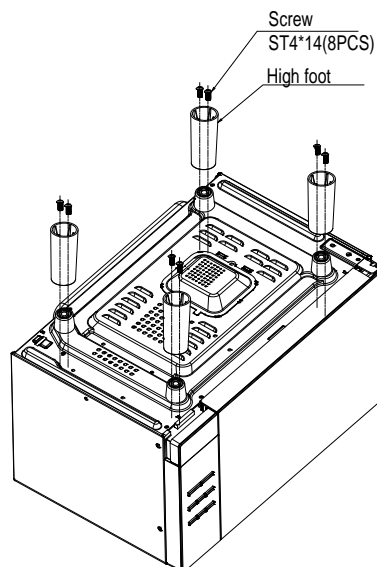
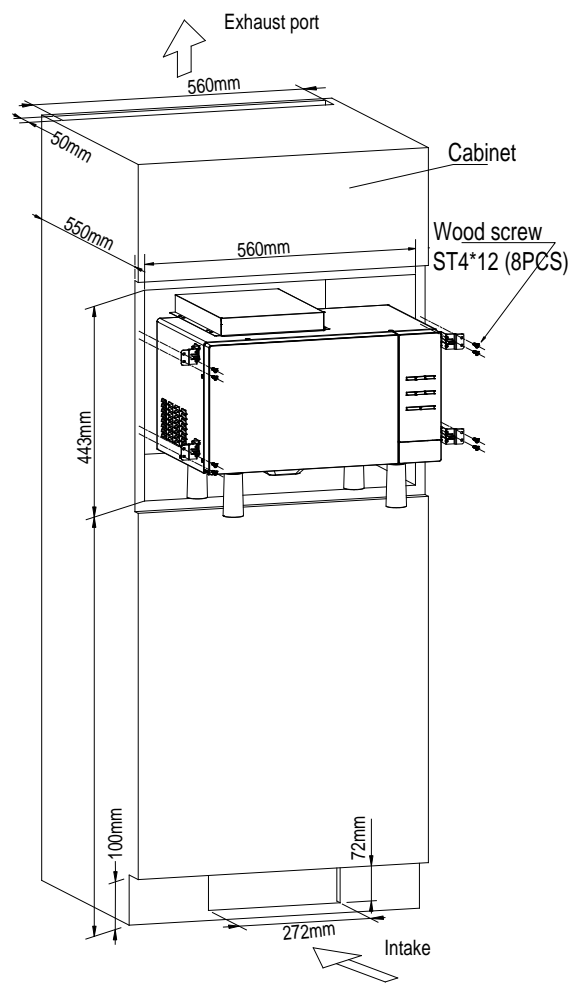

Fig 1
Fig 4
- a) Intake and exhaust port position, as shown in Fig.4.
- b) Net depth $\geq 550\text{mm}$, as shown in Fig.4.
② **INSTALLATION:**
- b) Install the high feet with self-lock screws, as shown in Fig.1
d) Place microwave oven into cabinet, and then fix it with wood screws, as shown in Fig.4